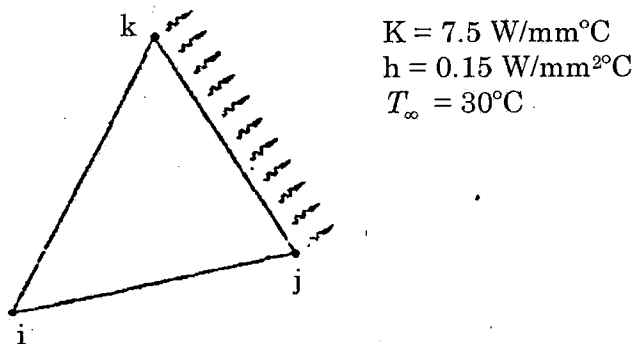

Fig. 4
- (b) Determine the element matrices and vectors for the LST element shown in Fig.4. The nodal coordinates are i (1, 1), j (5, 2) and k (3, 5). Convection takes place along the edge jk.